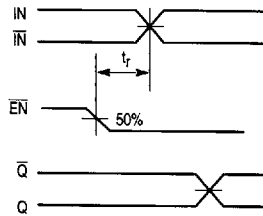

Figure 3. Release Time
- The release time is the minimum time that EN must be deasserted prior to the next IN/IN̄ transition to ensure an output response that meets the specified IN to Q propagation delay and output transition times (see Figure 3).